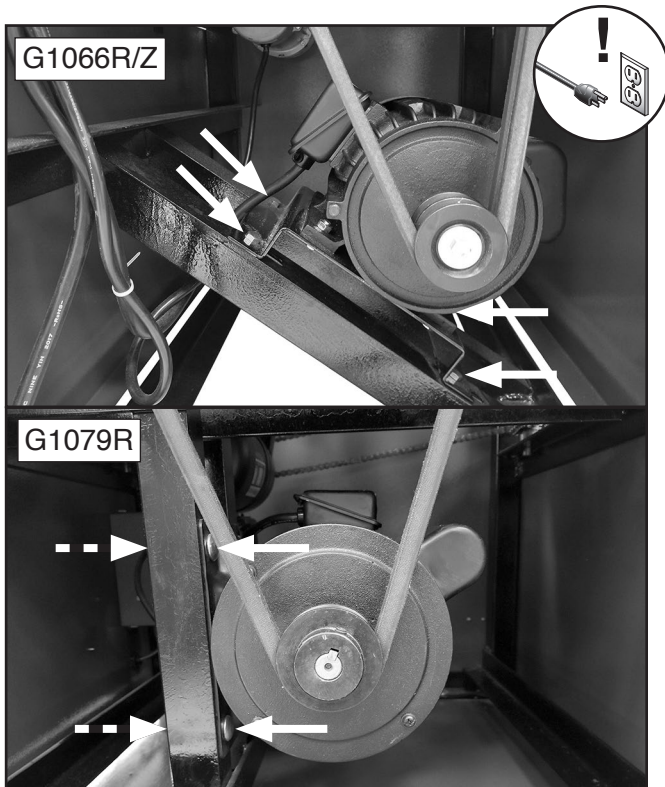

Figure 52. Locations of motor mount fasteners.
3. Loosen motor mount fasteners shown in **Figure 52**. DO NOT remove motor mount fasteners.